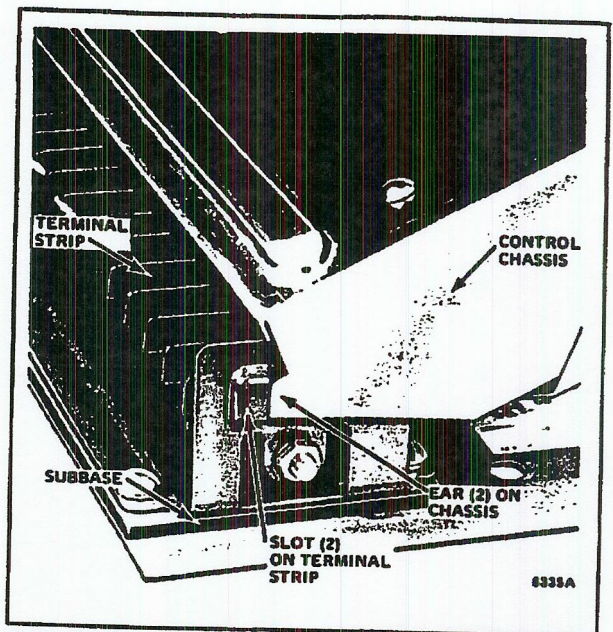

FIG. 12—INSERTING EARS (ON R4138) INTO SLOTS AT TOP AND BOTTOM OF TERMINAL STRIP.
5. Grasp the handle of the R4138 chassis and insert the 2 ears (at the top and bottom along the left side) into the slots at the top and bottom of the terminal strip (Fig. 12).
### REMOVING THE R4138 (FIGS. 12 AND 13)
5. Disengage the 2 ears on the chassis from the slots at the top and bottom of the terminal strip (Fig. 12).